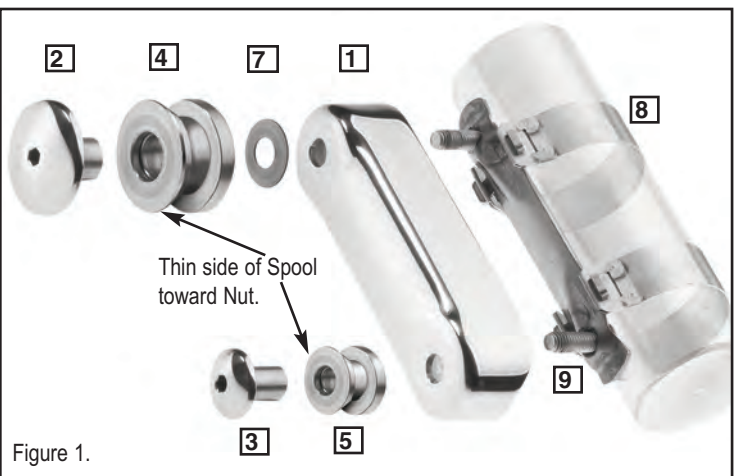

Figure 1.
4. Position the Mounting Cup (1) onto the Spider Bracket so the studs protrude from the holes in the Mounting Cup. **Figure 1, Page 1.**
5. Place a Brass Washer (7) onto the top stud. **Figure 1.**
6. Push the large Upper Nut (2) into the large Upper Spool (4) so the **thin side** of the spool is near the head of the Upper Nut. **Figure 1.**
8. Assemble the Lower Spool (5) and Lower Nut (3) so the **thin side** of the Spool is near the head of the Lower Nut.